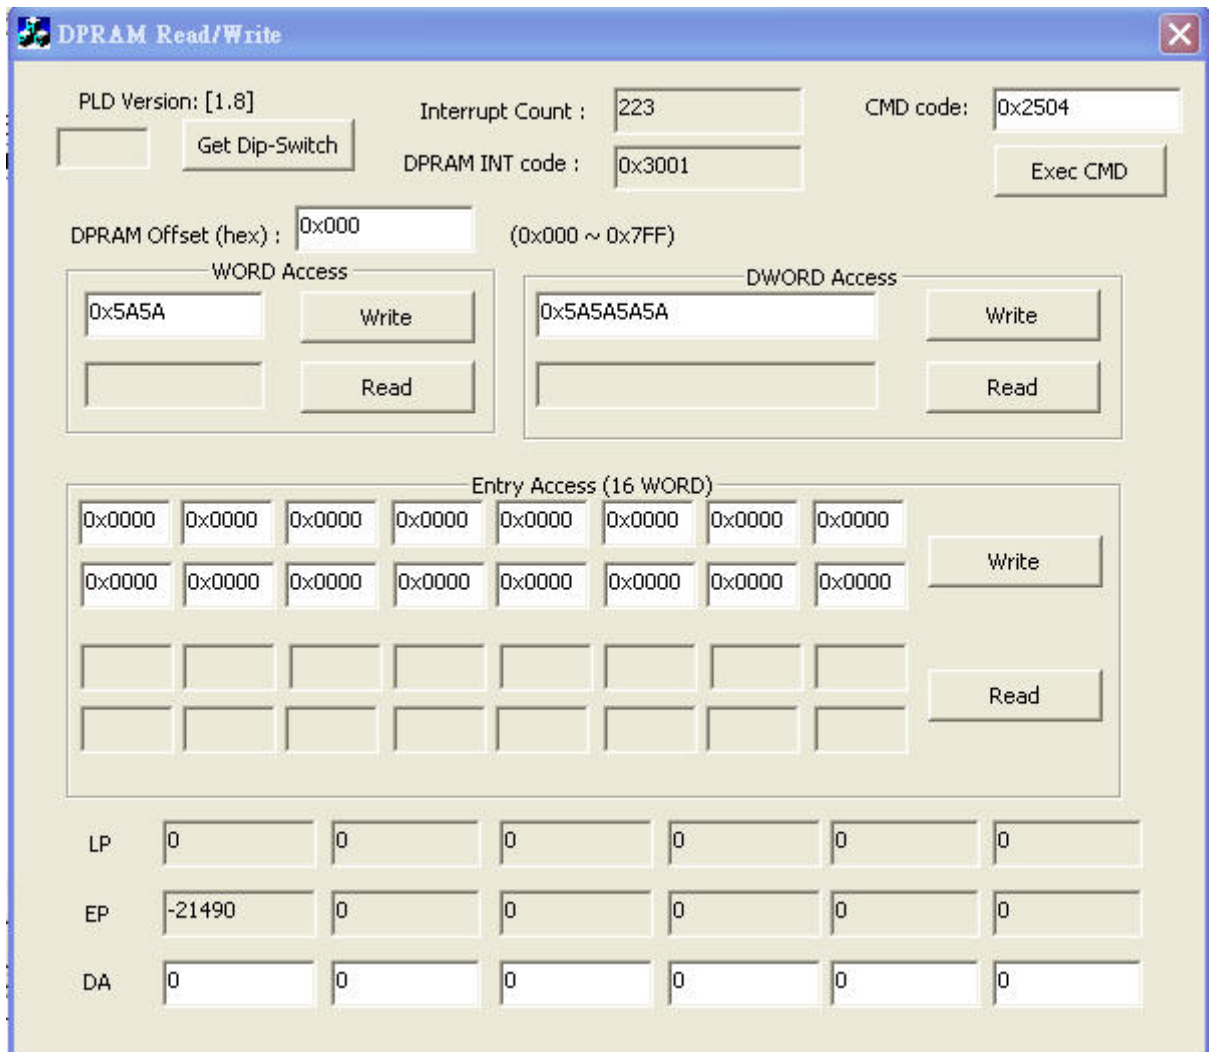

Fig. 1
5. Referring to the Fig. 1, the **Interrupt Count** will keep